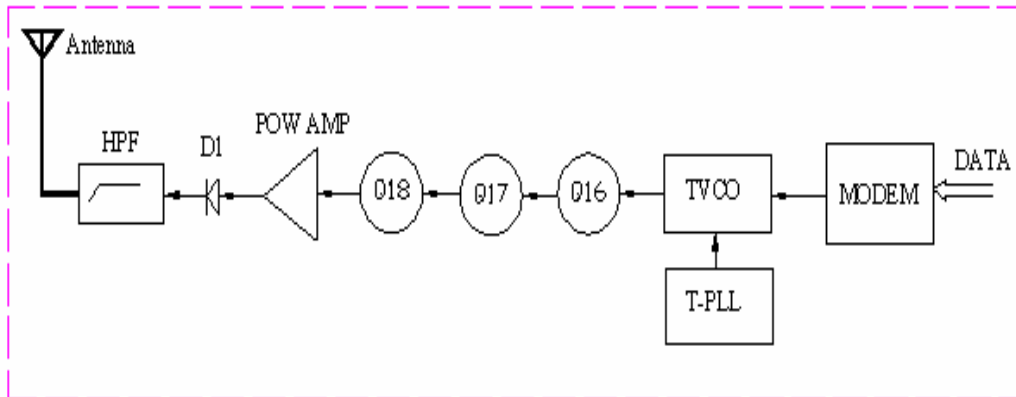

Fig.3
2) Transmitter system is shown in Fig.3